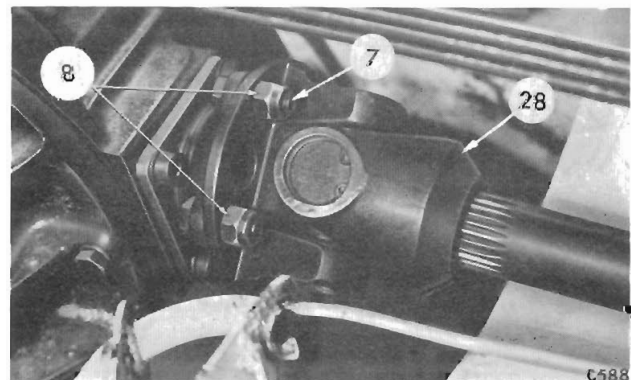

Fig. 50. Axle shaft universal joint attachments
3. Jack up the vertical link (12), as shown on Fig. 43, to relieve the dampers of load. Remove nuts (8), bolts (7), Fig. 50, and disconnect the axle shaft couplings.